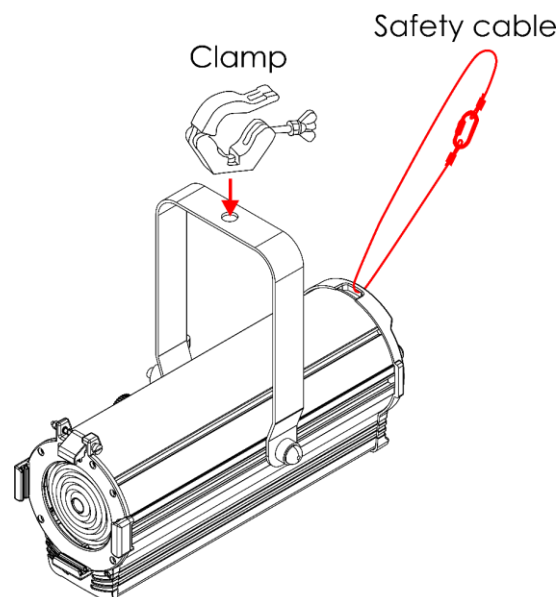

Fig. 07
- 01) Use a clamp to attach the device to the supporting structure, as shown in Fig. 07. Make sure that the device cannot move freely.
- 02) Secure the device with a secondary suspension, for example a safety cable. Make sure that the secondary suspension can hold 10 times the weight of the device. If possible, the secondary suspension should be attached to a supporting structure independent of the primary suspension. Put the safety cable through the **safety eye (02)**, as shown in Fig. 07.